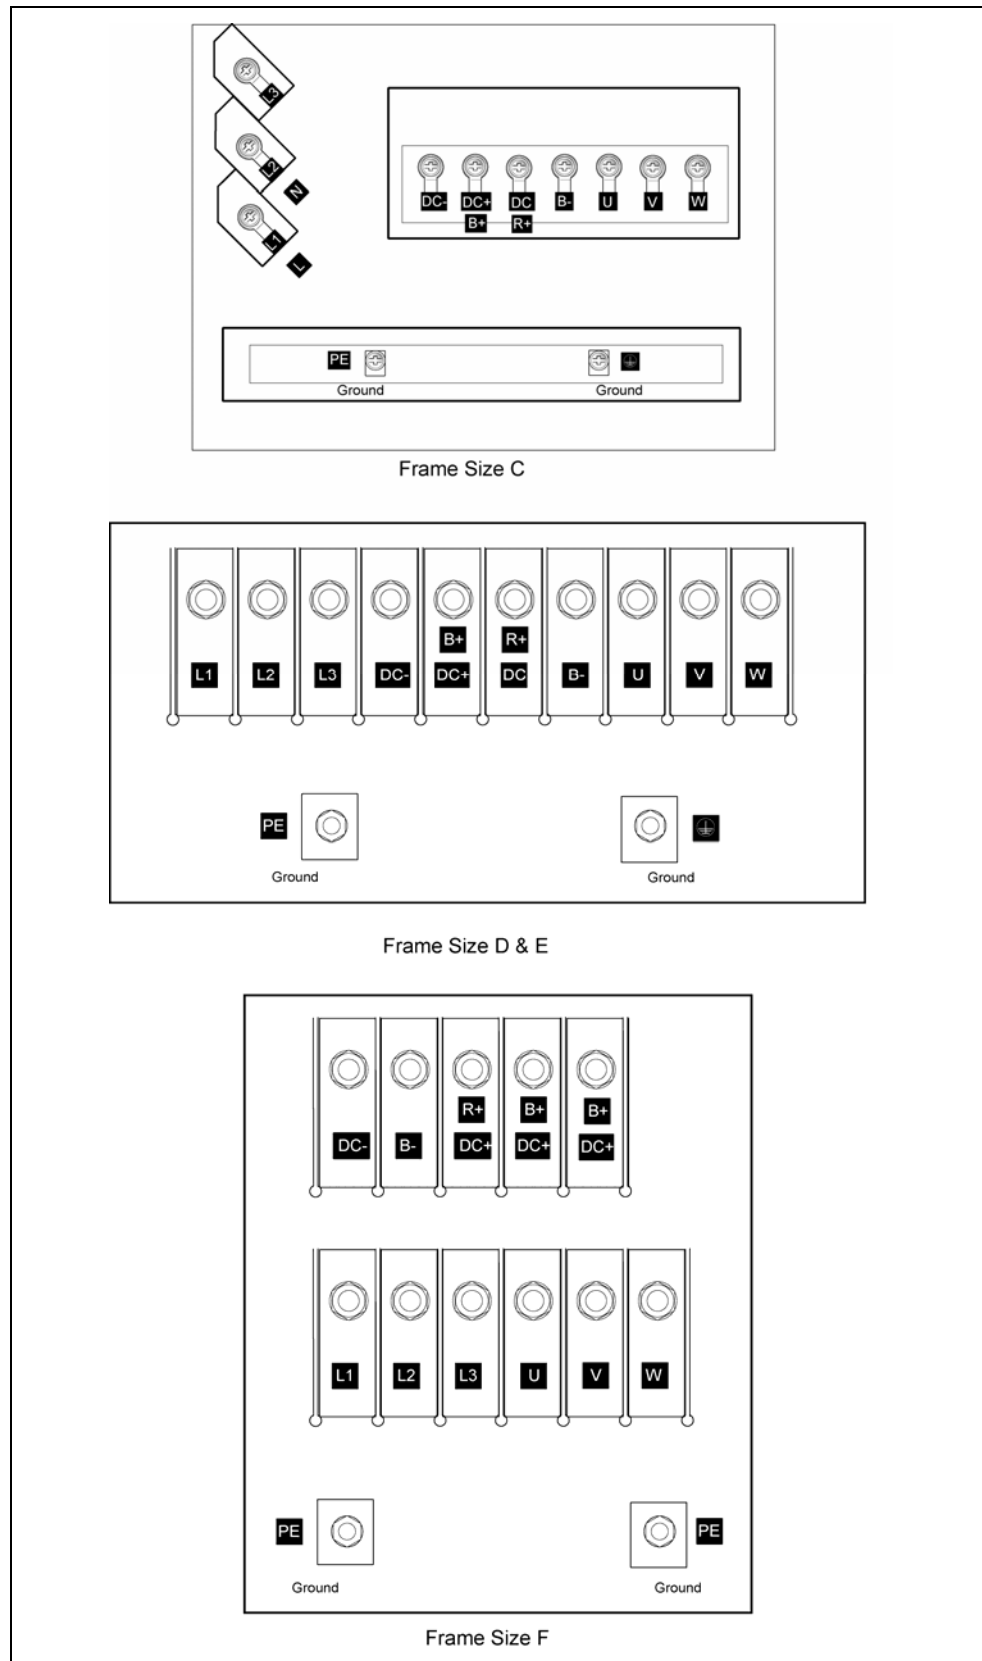

Fig. 2-5 Connection terminals for Frame Sizes C- F
- Connection terminals for Frame Sizes C -F (Fig. 2-5)